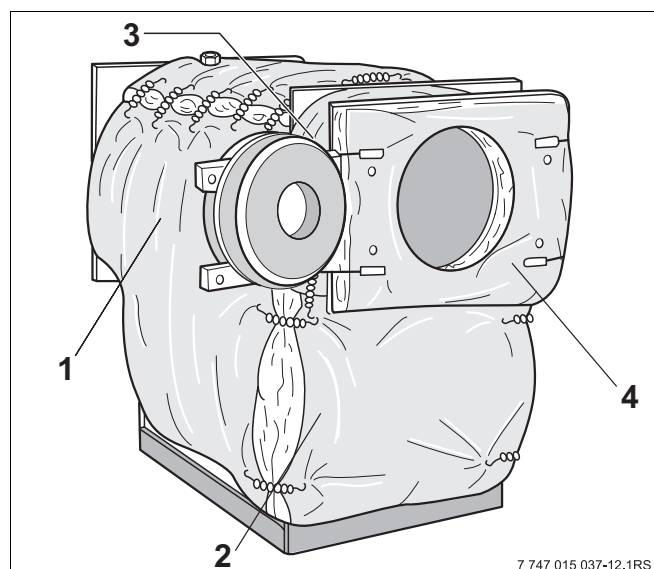

Fig. 4 Wrapping thermal insulation jacket around boiler and fixing
- Wrap thermal insulation jackets overlapping around the boiler and fix at the top with 5 spring clips (Fig. 4, **Item 1**). Ensure that both door hinge bolts are installed properly.
- Place lower thermal insulation pad (Fig. 4, **Item 2**) against boiler body front panel and fix to the thermal insulation jacket with 2 spring clips on each side.
- Place thermal insulation strip (Fig. 4, **Item 3**) around the cylindrical section of the boiler body at the top and fix to the lower insulation pad with 2 spring clips, one each side.
- Place top thermal insulation pad against front of boiler body (Fig. 4, **Item 4**).